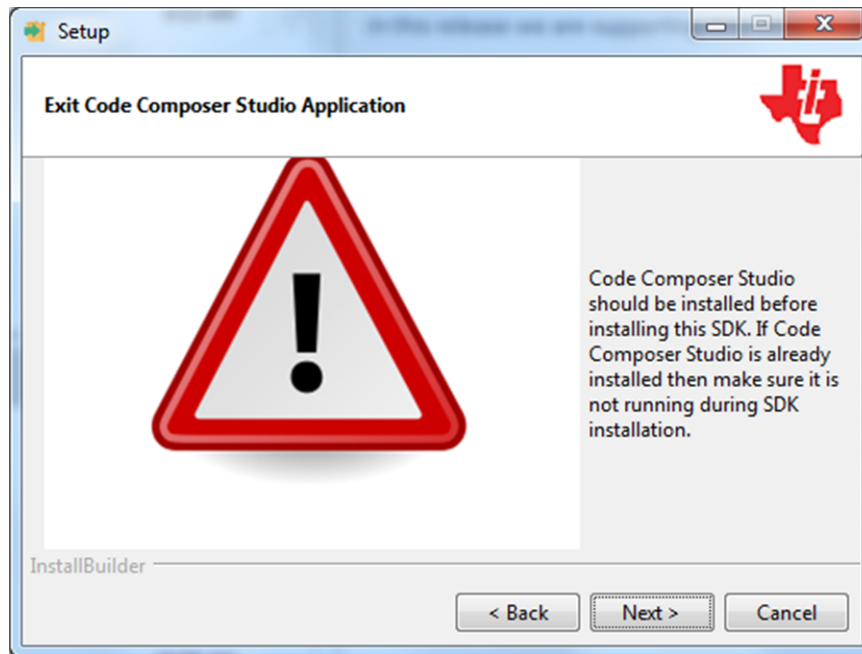

Figure 14. Warning Message to Close CCS
Step 7. Ensure all running instances of CCS are closed (see Figure 14).